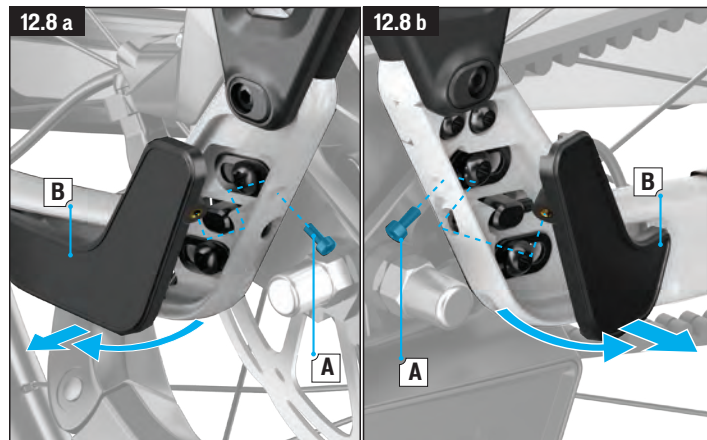

Fig 12.8 A & B
- Remove the adjustable dropout covers (fig. 12.8 A-B)
- Using a TX25 wrench, remove the upper seatstay coupler bolts (A) and the seatstay coupler barrel (B) from the dropout.
- Pull the chainstay and seatstay apart and slide the belt carefully through the gap in the seatstay (C).